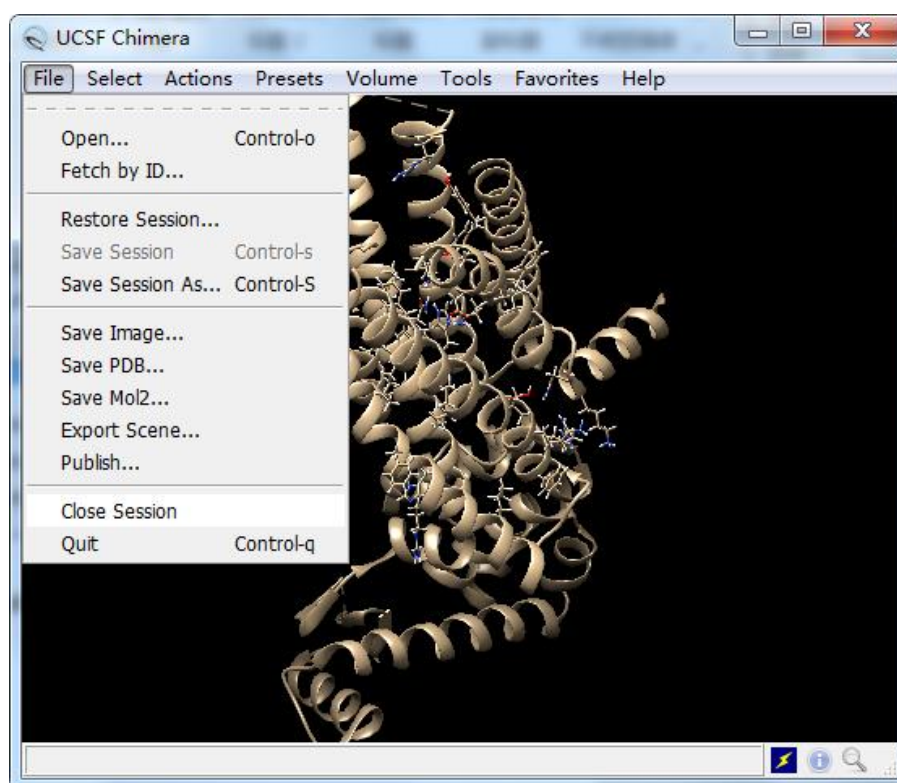

Figure 9. Closing session.
1. Close session (File→Close Session) and reload the GCGRH.pdb, then select with ligand 5MV (see Figure 9 and 10):